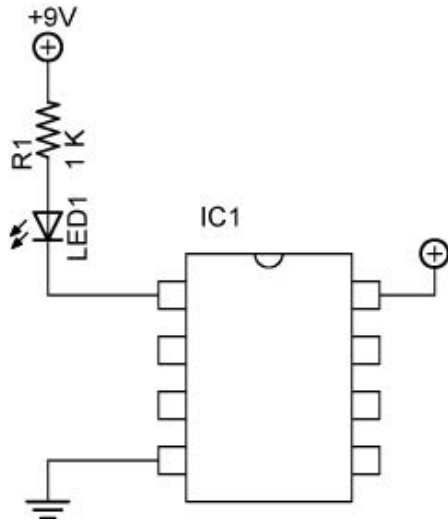
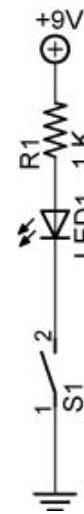

Figure 40 - Chip Acting as a Sink
Figure 41 - Chip Acts Similar to Switch S1
- **Chip as a Sink:** In Figure 40, when the pin connected to the LED goes LOW, the chip connects the load to ground, similar to the switch in Figure 41.